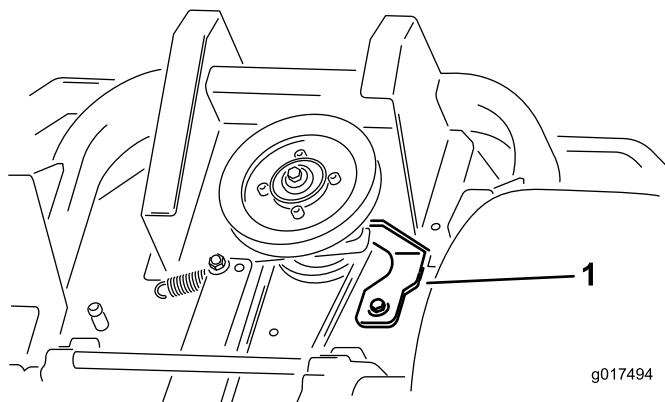

**Figure 60**
4. Raise the machine and support it with jack stands (Figure 60).
6. Remove the idler spring from the post (Figure 60).